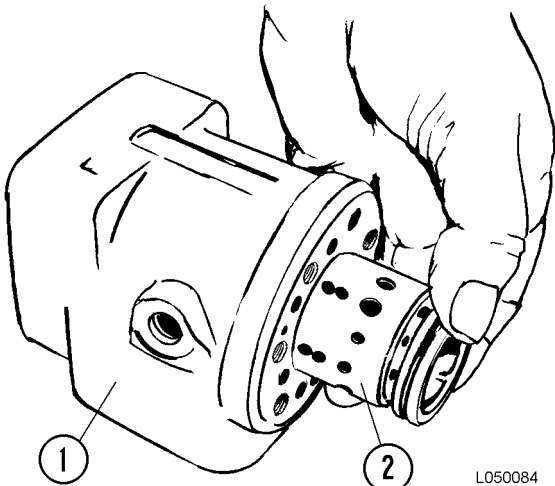

FIGURE 50-10. SPOOL INSTALLATION
- Position the steering control unit so that housing (1, Figure 50-10) is horizontal. Slowly guide lubricated spool assembly (2) with fitted parts into the bore using light turning movements.